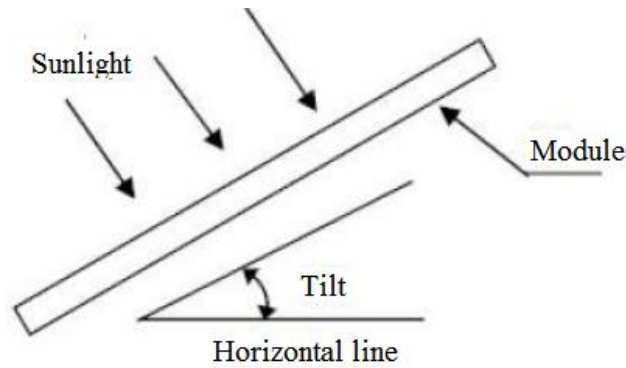

Figure 2 PV module tilt angle
2.2.4 The tilt angle of the PV module is the angle between the surface of the PV module and a horizontal ground surface (as shows in Figure 2). The PV module generates maximum output power when